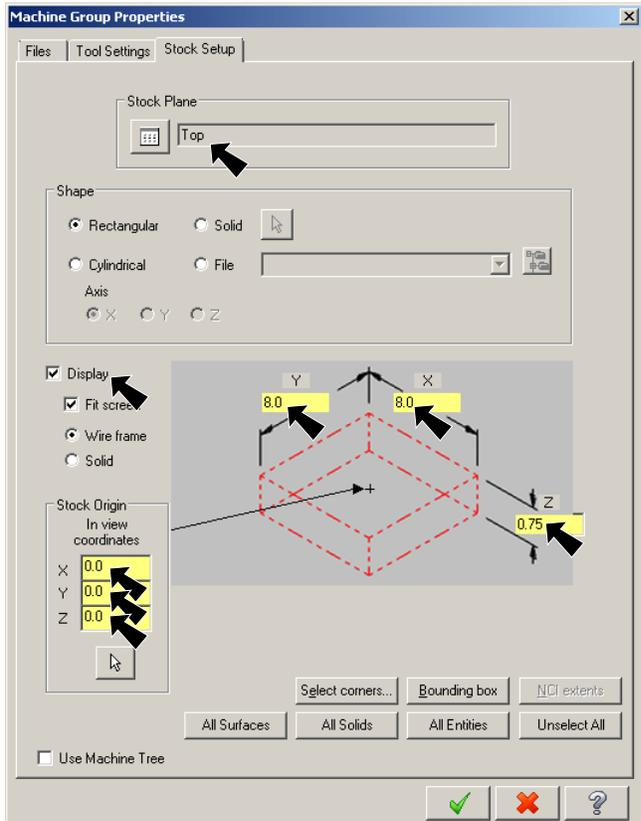

Fig. 56
Step 5. Confirm Stock Plane is **Top**, **Fig. 56**.